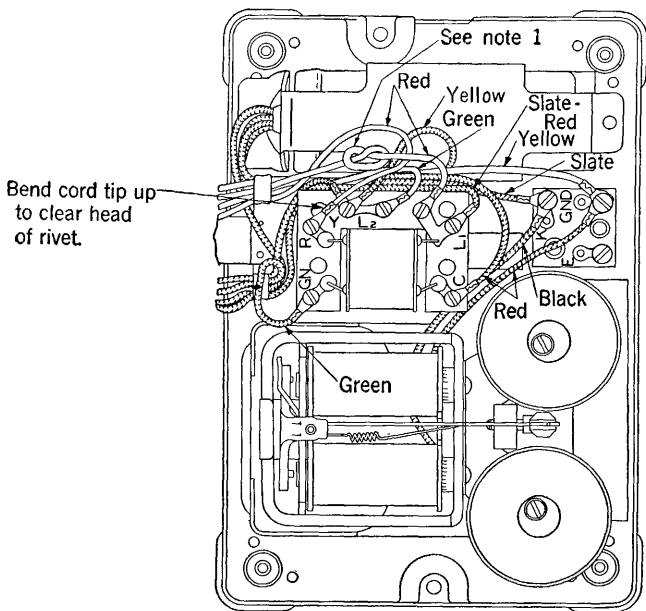

**Fig. 7—D-173487 (3 conductor), 302F, 302G and 302H Telephone Sets**
**Note 2:** See Fig. 7 for cording of housing.